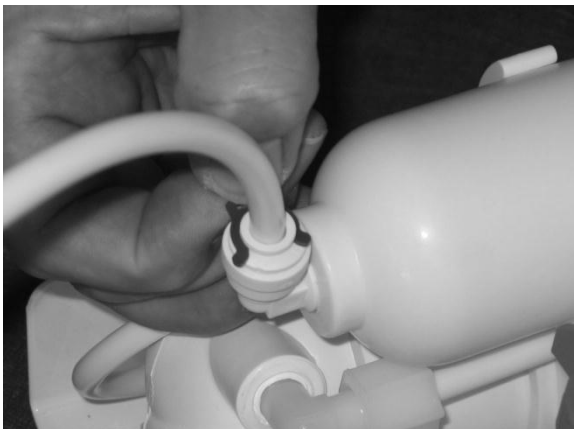

Fig. 5
5. Remove the safety clips from the fittings of the resin container (Fig. 5) and take out the connecting pipes by pressing the retaining ring towards the body of the fitting and then pulling on the pipe (Fig. 6).